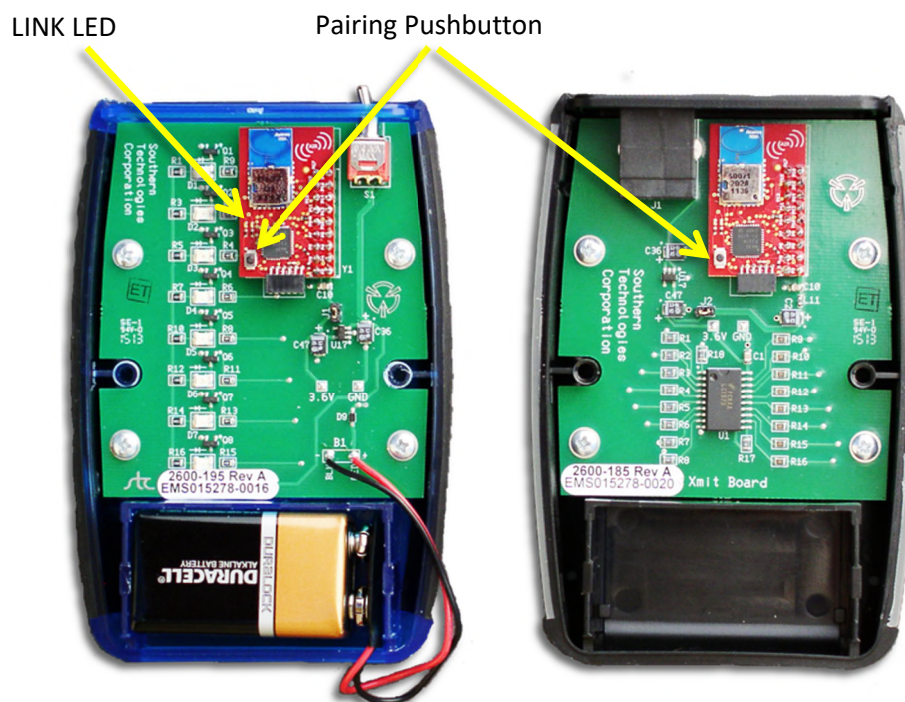

Figure 5 - Receiver and Transmitter without Cover
1. Remove the two Phillips screws and the cover from each unit. Figure 5 shows the internal circuit boards of the receiver and transmitter.